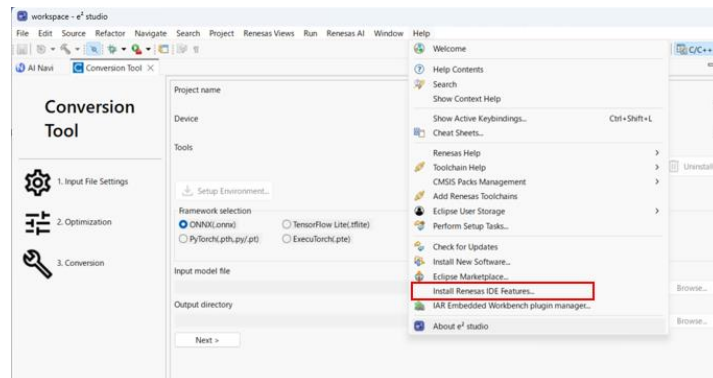

Figure 3.2 Install IDE feature (1)
(Refere to Figure 3.2 Install IDE feature (1))